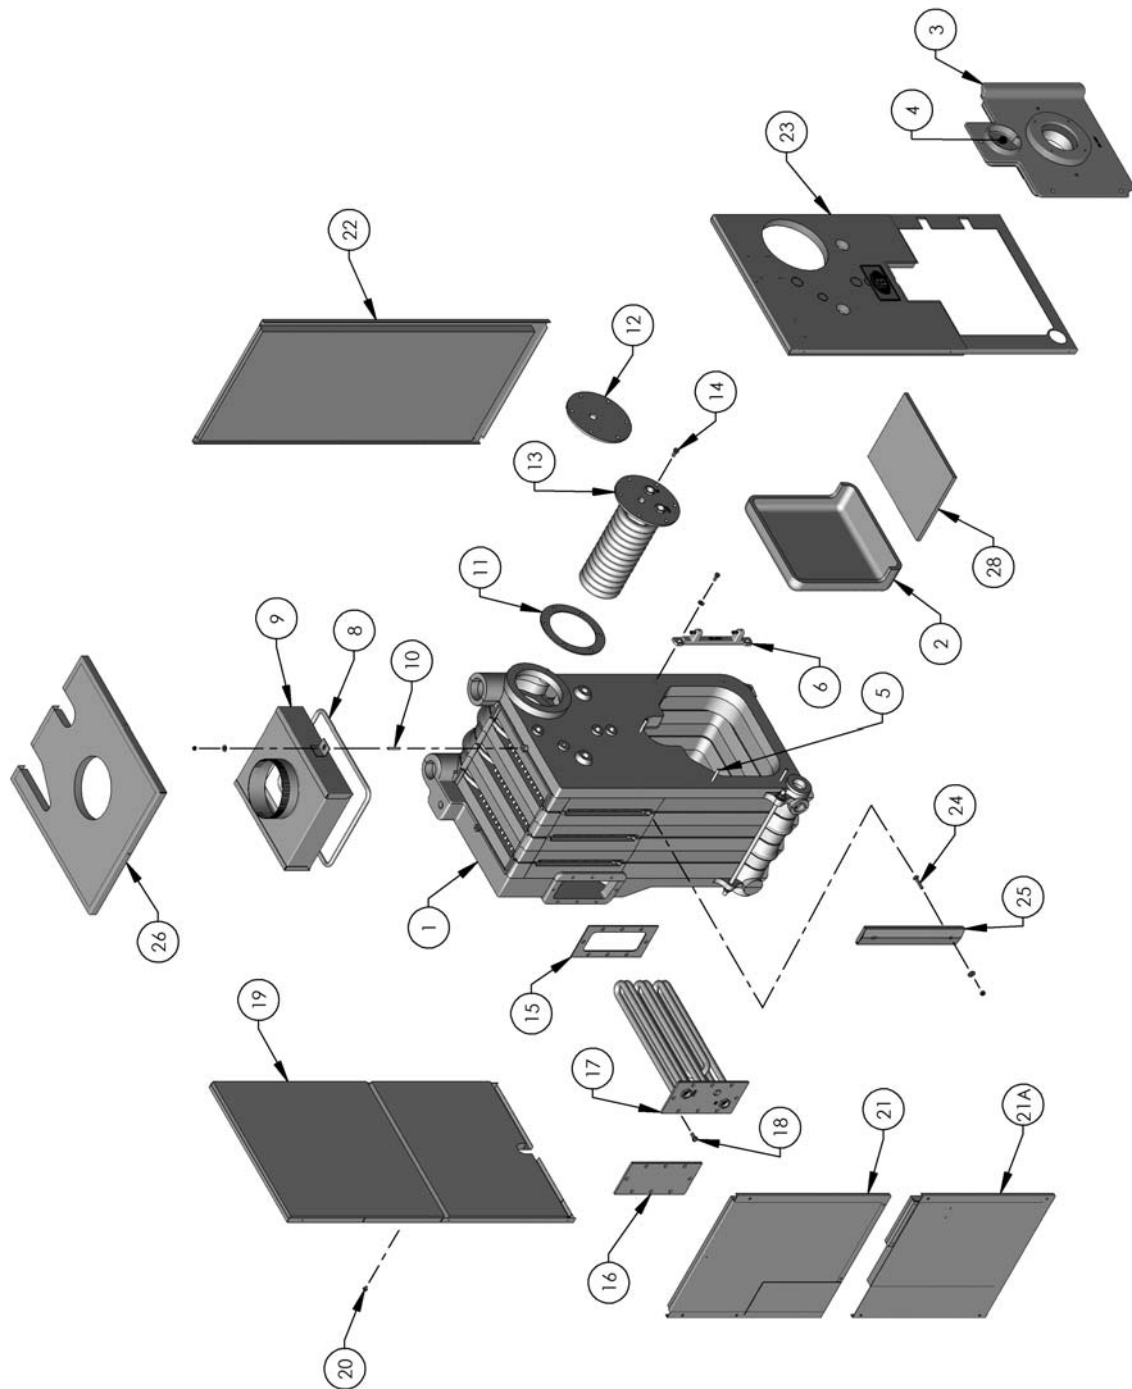

Figure 2.2: Boiler Exploded View
2. Refer to Figure 2.2 for exploded view of boiler while checking and/or assembling parts of the boiler.
1. Refer to Figure 2.2 for exploded view.
4. Remove the (2) knock-outs in the front jacket panel (Item 23) which allow clearance for the hinge. Place the front jacket panel on the block and replace the burner mounting plate.